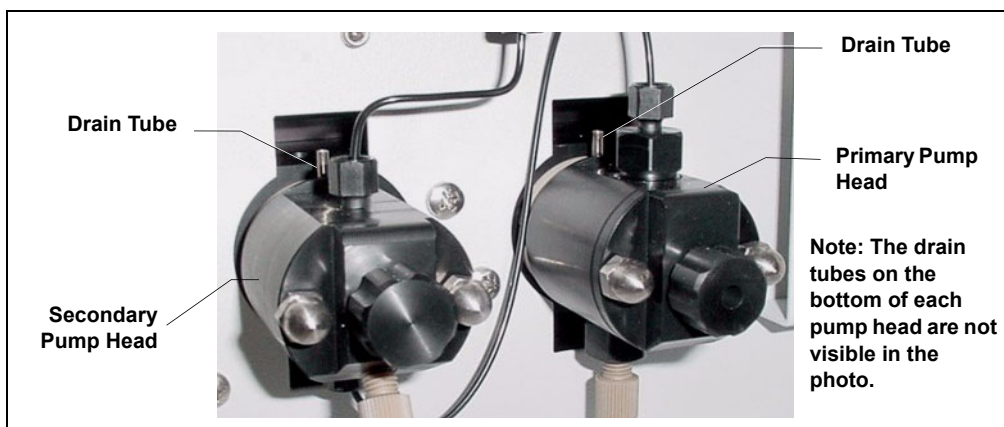
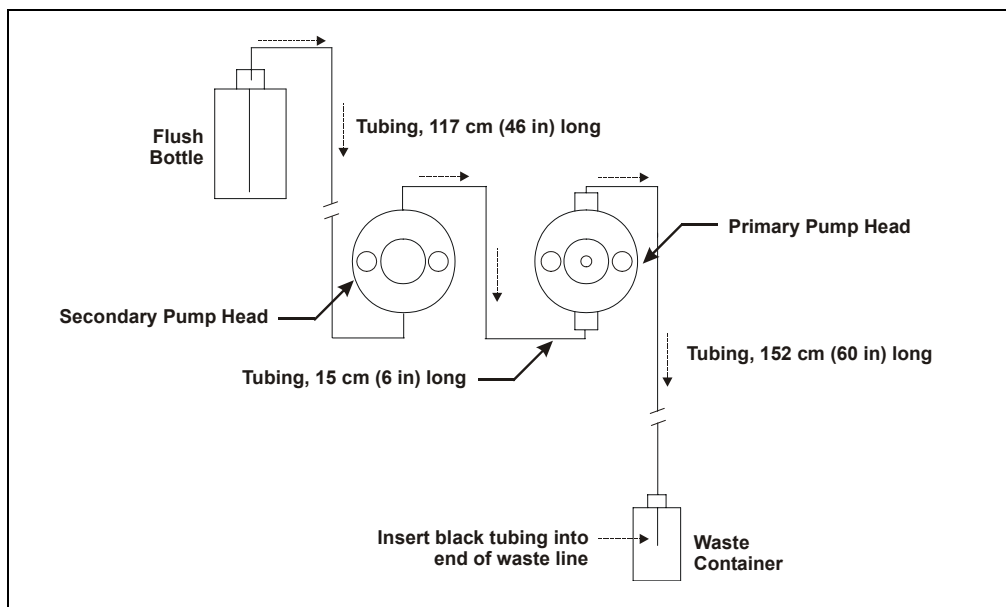

Figure 68. Primary and Secondary Pump Heads with Drain Tubes
Figure 69. Piston Seal Wash Flow Schematic
4. Install the tubing as follows (see Figure 68 and Figure 69):